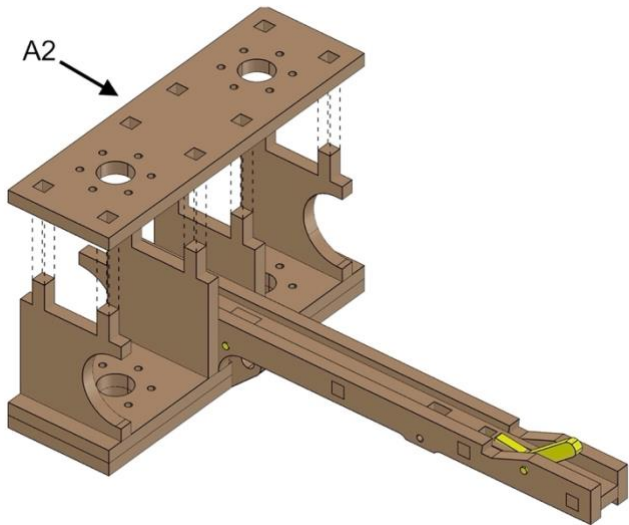

Fig. 21
- Align parts exactly as shown in *Fig. 21*.